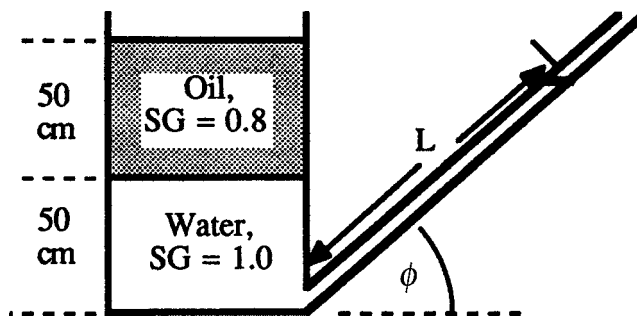

Fig. P2.36
**2.36** In Fig. P2.36 both the tank and the slanted tube are open to the atmosphere. If  $L = 2.13$  m, what is the angle of tilt  $\phi$  of the tube?